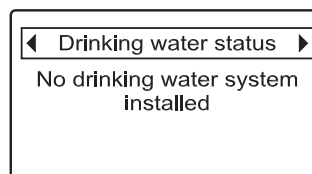

FIG. 105
If a communications-capable drinking water filtration (RO) system has been added to the remote, it will have its own status screen displayed during normal operation. Otherwise, a drinking water status screen will display a message like the one shown in Figure 105.
1. Press the remote's LEFT (◀) or RIGHT (▶) buttons to manually advance to the **Drinking water status** screen (See Figure 105).